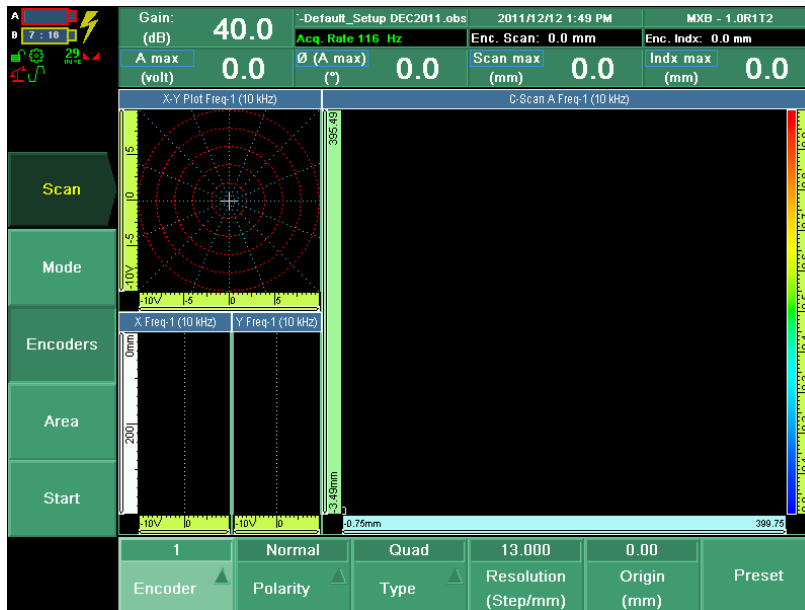

Figure A-4 Encoders submenu with Encoder and Resolution parameters
3. Select **Encoders > Encoder > Resolution**, and then enter the appropriate value for the x-axis resolution, depending on the scanner in use (see Figure A-4 on page 56):